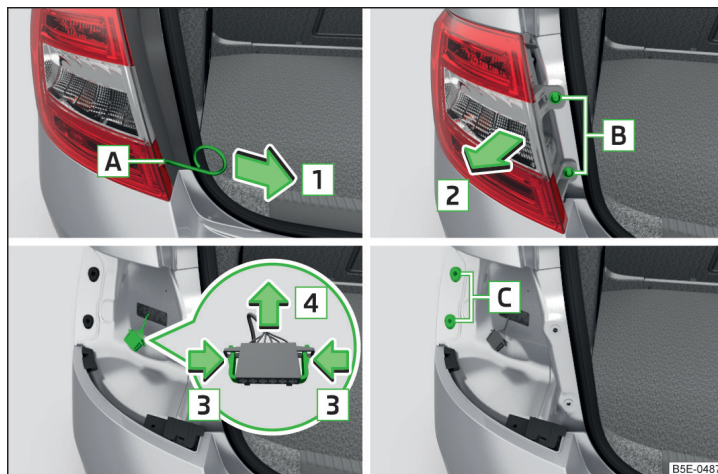

Fig. 243 Remove light / pull out connector
- Insert into opening **A** ¹⁾ » Fig. 243 the clamps for removing the full wheel covers » page 208, *Vehicle tool kit*.
- » Fig. 243 in the body.